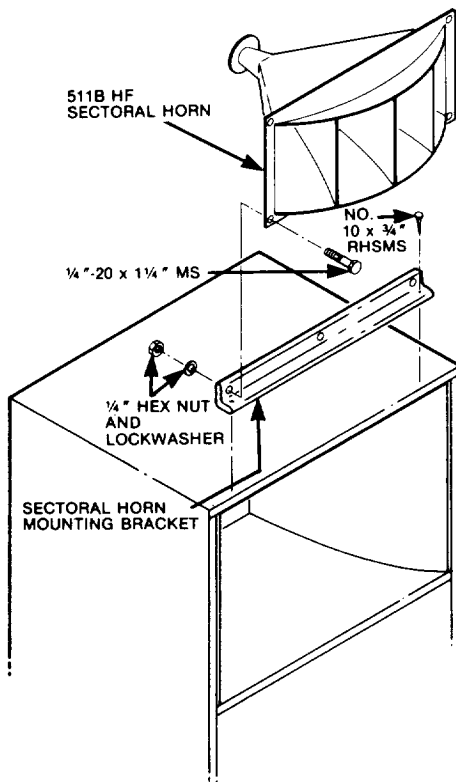

Figure 4. External Mounting of HF Horn
- Place 828G Horn Cabinet upright. Remove horn mounting bracket from bottom (inside of cabinet; re-install two 1/4"-20 x 3/4" bolts in T-nuts for possible later use. Center horn mounting bracket on front edge of cabinet and secure with two No. 10 x 3/4" sheet metal screws. See Figure 4.